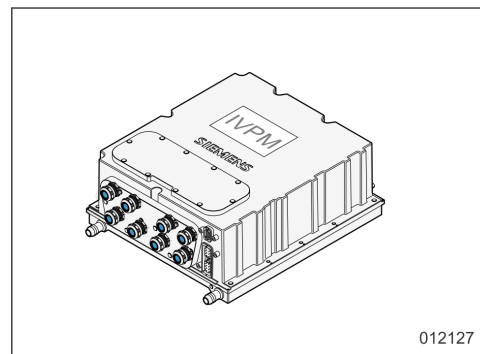
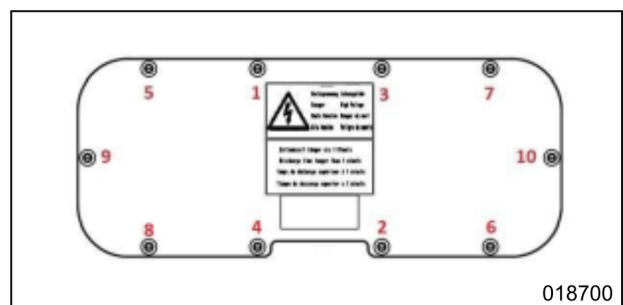

Figure 2: “SIEMENS” voltage inverter with built-in overvoltage protection
Figure 4
- Tighten all ten M5 cover fixing screws first to a torque of approximately 2,5 Nm (22 in.lbf) in the sequence shown in figure 2. Then finally tighten the screws to 3,7 Nm (32.7 in.lbf) in the order shown in figure 4. To this end, use a torque wrench according to ISO 6789.